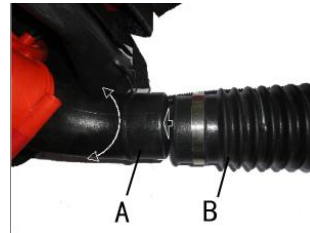
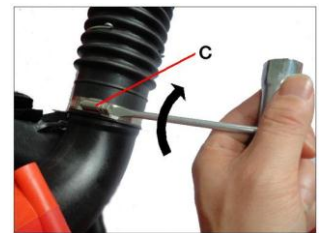

Fig.1
Fig.2
Put the hose clamp(C) on the flex tube before the flex tube and the fan's outlet tube together. flex tube(B) to the fan's outlet tube(A)(Fig.1) with a clamp(C)(Fig.2) and tighten securely(Fig.2).